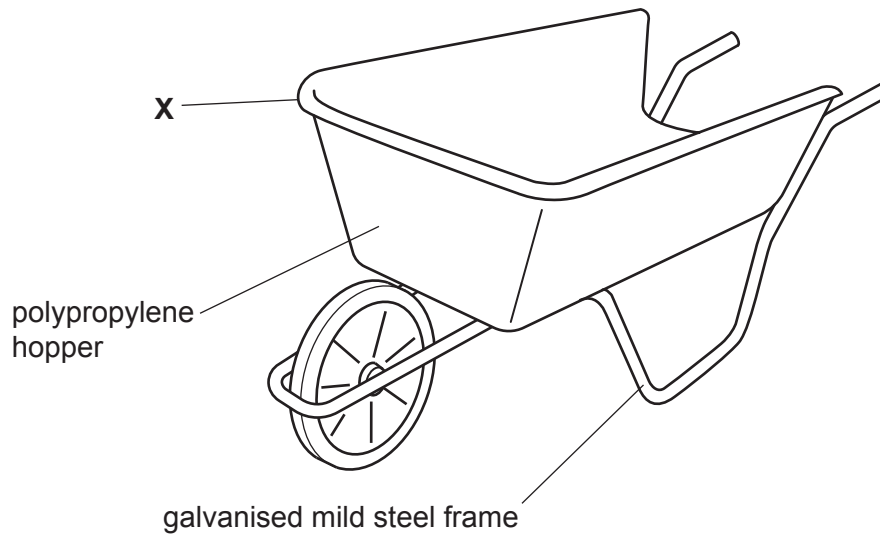

Fig. 4.1
- 4 Fig. 4.1 gives details of an incomplete wheelbarrow that is used for moving garden rubbish.